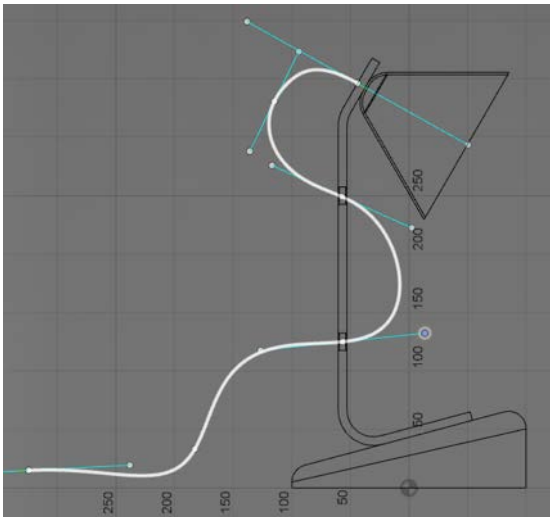

Fig. L17
20. Create a spline that begins right behind the lamp shade and goes through both holes in the lamp arm, and extends to the back of the lamp (Fig.L17). \*\*Note: change the visual style to “wireframe” so that you can see the holes. You can do this at the bottom of the screen, by clicking the icon that looks like a computer monitor.